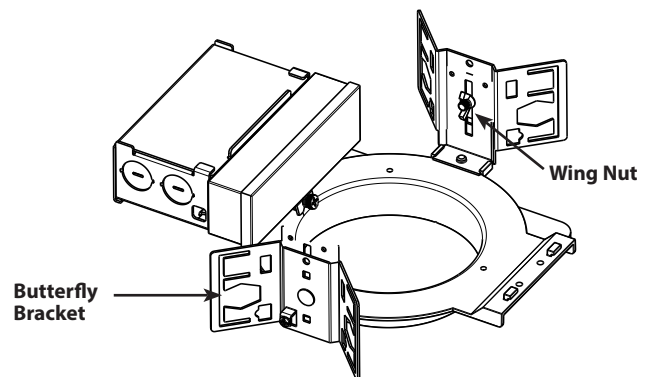

Fig: 2
4. The fixture can be adjusted to different heights above the ceiling surface (max ceiling thickness is 1"). For height adjustment, loosen the **Wing Nut** and slide the **Butterfly Bracket**. If necessary remove the **Wing Nut** and insert in screw in different hole provided on the **Butterfly Bracket**. (Fig: 2)